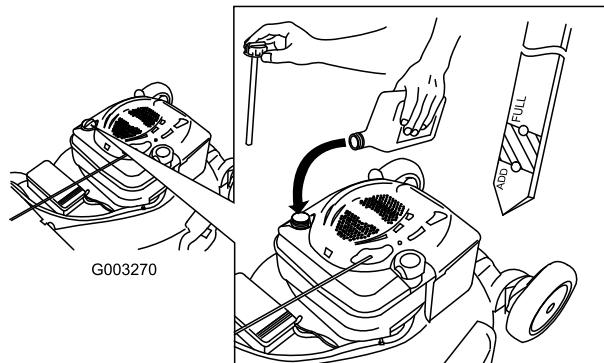

Figure 37
4. Slowly pour oil into the oil fill tube until the oil level reaches the Full line on the dipstick (Figure 37). **Do not overfill.** (Max. fill: 20 oz. (0.59 l), type: SAE 30W detergent oil with an API service classification of SF, SG, SH, SJ, SL, or higher.)